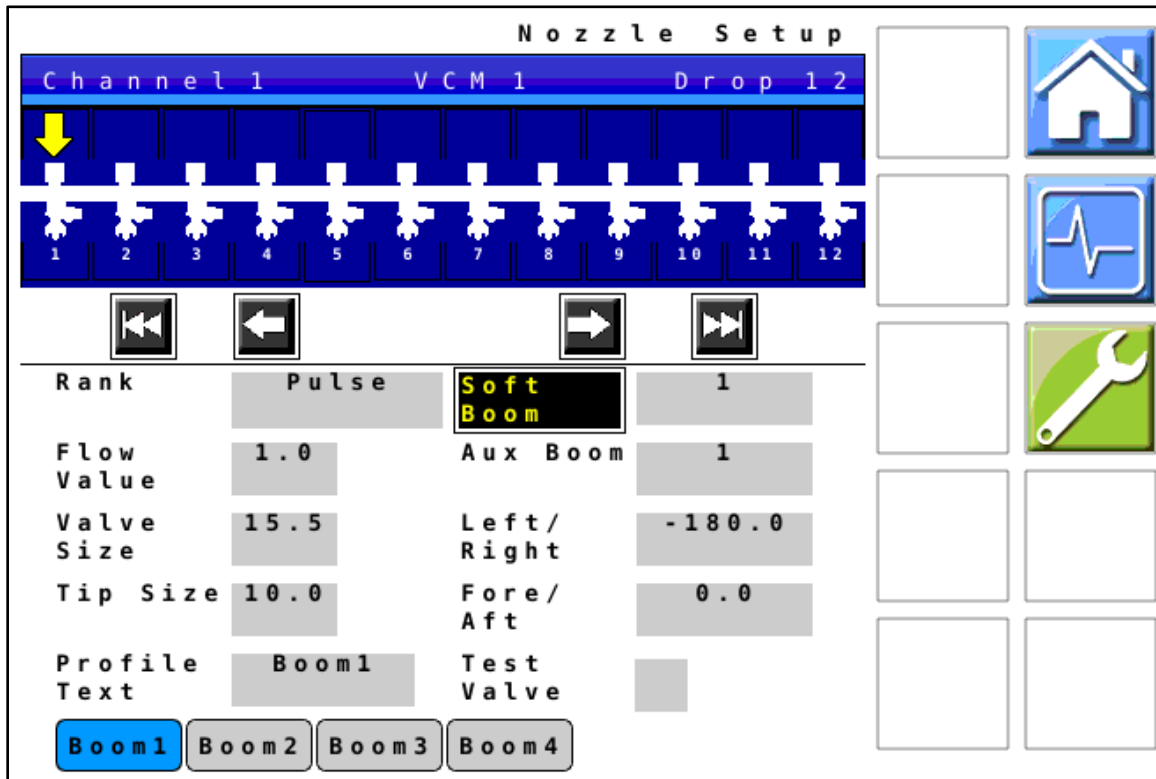

Figure 10 — Nozzle Setup
18. *Figure 10*: Use the Nozzle Setup screen to set up and name custom boom profiles.